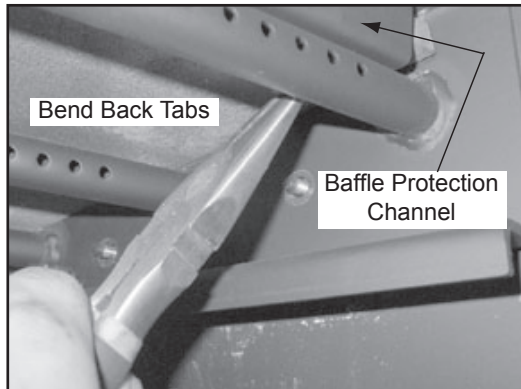

Figure 28.1
2. Remove the baffle protection channel by bending back the tabs using needle nose pliers located at the right and left side of the protection cover. Lift the cover up slightly and pull toward the front and out of the firebox (**Figure 28.1**).